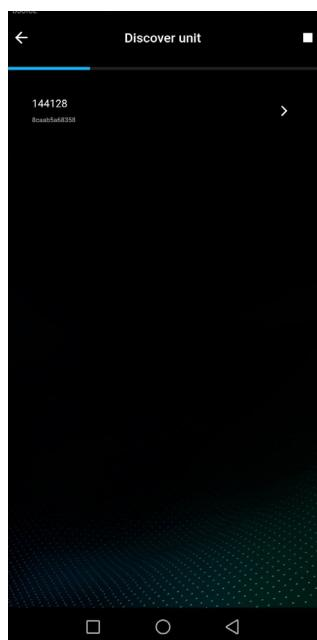

Рис. 5
- 9) If the network setup is successful, you will be redirected to the installation search page (Figure 5)